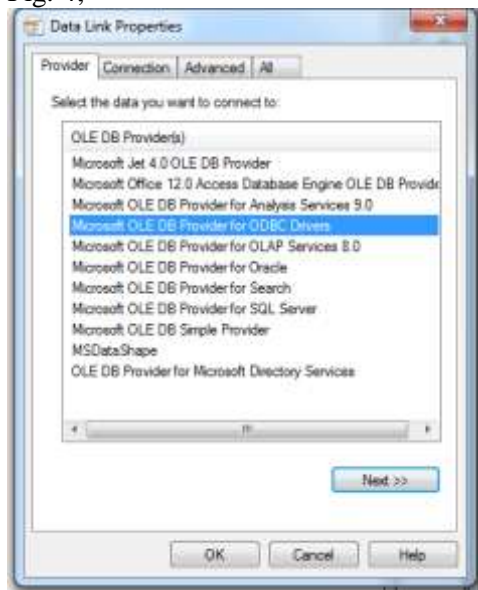

Fig. 4. Dialog box *Data Link Properties*
- d) we will execute click on OK for displaying the dialog box *Data Link Properties* from Fig. 4;